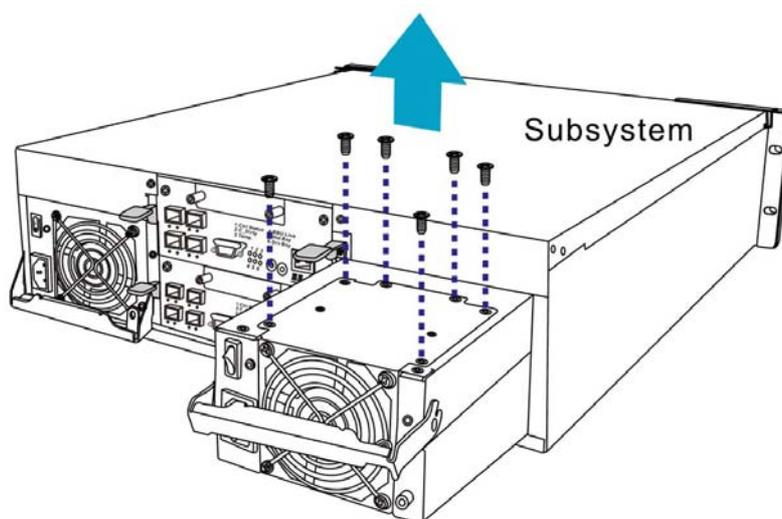

Figure 5-16: Removing the Cooling Module
- The fan replacement process should be completed within five (5) minutes. If the process takes too long, the accumulated heat can damage the subsystem.
**Step 2.** Use a medium-size Phillips screwdriver to remove the six screws from the top of the PSU module. (See *Figure 5-16*)